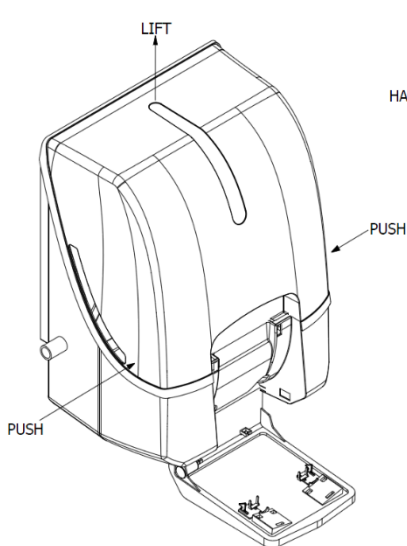

FIGURE 8
Step 8. Remove Lid Assembly (Ref Figure 8)
- A. To remove the Lid Assembly, a slight pressure must be applied to both sides of the Lid (Ref Figure 8). This will disengage the Locking Tab inside lid assembly. While pressing in, lift upward and cover will come off.